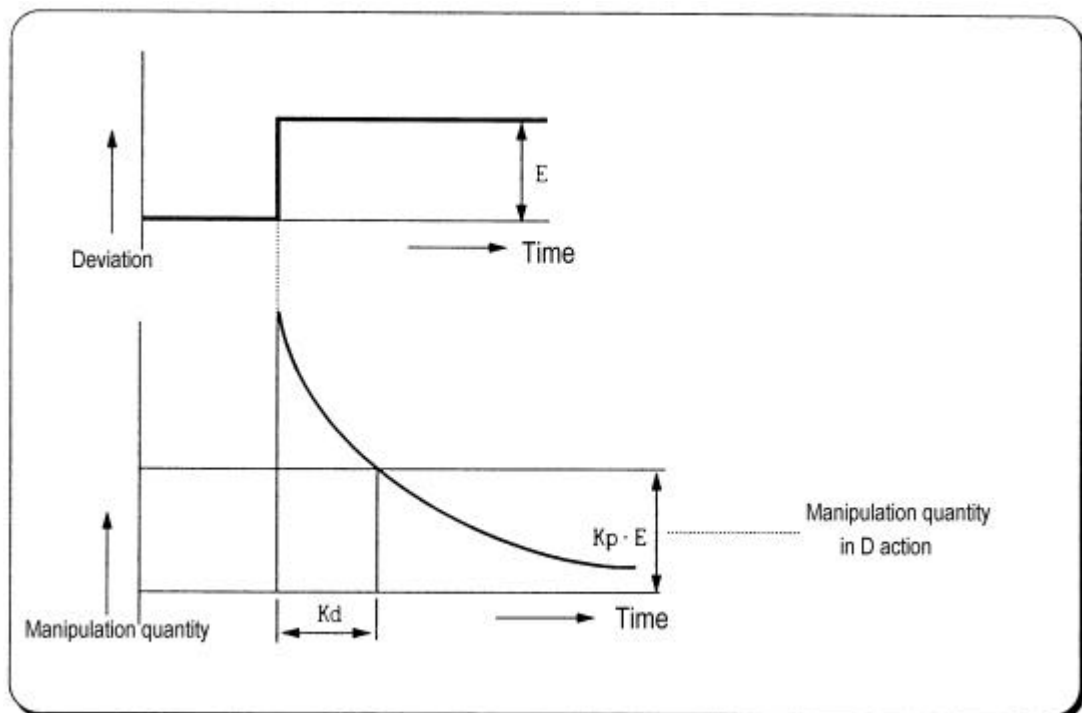

Fig. 2-7 Derivative action with a constant deviation
- (1) When a deviation occurs due to alteration of SV or external disturbances, D action restrains the changes of the deviation by producing MV which is proportioned with the change velocity (a velocity whose deviation changes at every constant interval) in order to eliminate the deviation.
- (2) The period of time from when the deviation has occurred to when the MV of D action become the MV of P action is called derivative time and represented as  $K_d$ .
- (3) The D action when a constant deviation occurred is shown as Fig. 2.7.